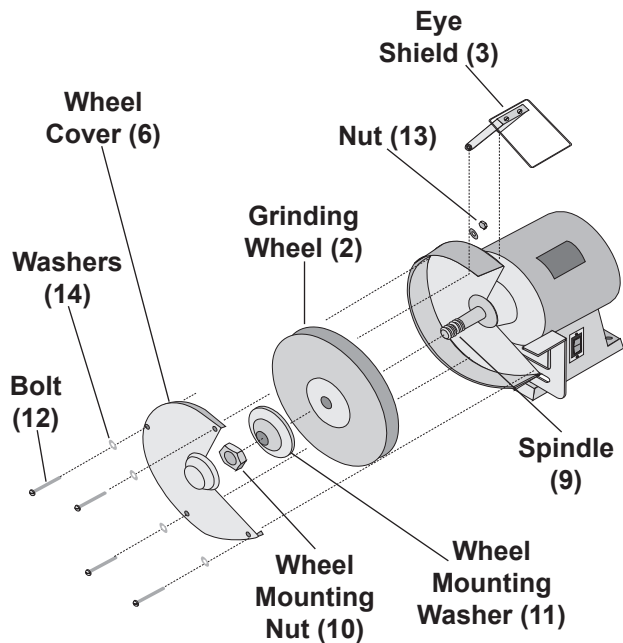

FIGURE 5 – Assembling the Grinder
1. Remove both GRINDING WHEEL COVERS (6) by unscrewing their BOLTS (12) and NUTS (13) as shown in Figure 5.
2. Place adjustable wrenches on both WHEEL MOUNTING NUTS (10).
3. To remove the right hand GRINDING WHEEL (2) turn its WHEEL MOUNTING NUT clockwise while keeping the left hand WHEEL MOUNTING NUT stationary. To remove the left hand GRINDING WHEEL turn its WHEEL MOUNTING NUT counterclockwise while keeping the right hand WHEEL MOUNTING NUT stationary.
4. Slide the WHEEL MOUNTING WASHER (11) off of the SPINDLE (9).
5. Slide the GRINDING WHEEL off of the SPINDLE (9).
1. Make sure the inside WHEEL MOUNTING WASHER (11) is on the SPINDLE (9) with its concave side facing out as shown in figure 5.
2. Place the GRINDING WHEEL (2) on the SPINDLE.
3. Place the outside WHEEL MOUNTING WASHER (11) on the SPINDLE with its concave side facing in.
4. Place the WHEEL MOUNTING NUT (10) on the SPINDLE and tighten. Caution; do not over tighten the WHEEL MOUNTING NUT as it may crack the GRINDING WHEEL.
5. Replace both WHEEL COVERS (6) and secure with their BOLTS (12), NUTS (13), and WASHERS (14).